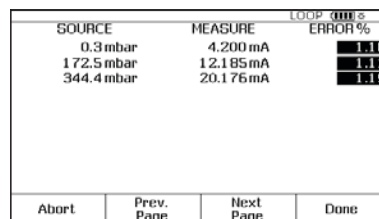

Figure 7.
4. Press the **Manual Test** softkey to begin calibration. Apply the input pressures as instructed in the SOURCE screen. Press the **Accept Point** softkey when the correct pressure is applied for each point. When the test is complete, the error summary table is displayed (Figure 7). Test errors exceeding the tolerance are highlighted. When done viewing the table, press the **Done** softkey. Press **Done** again to accept, or **ENTER** to change the tag, serial number or ID fields.